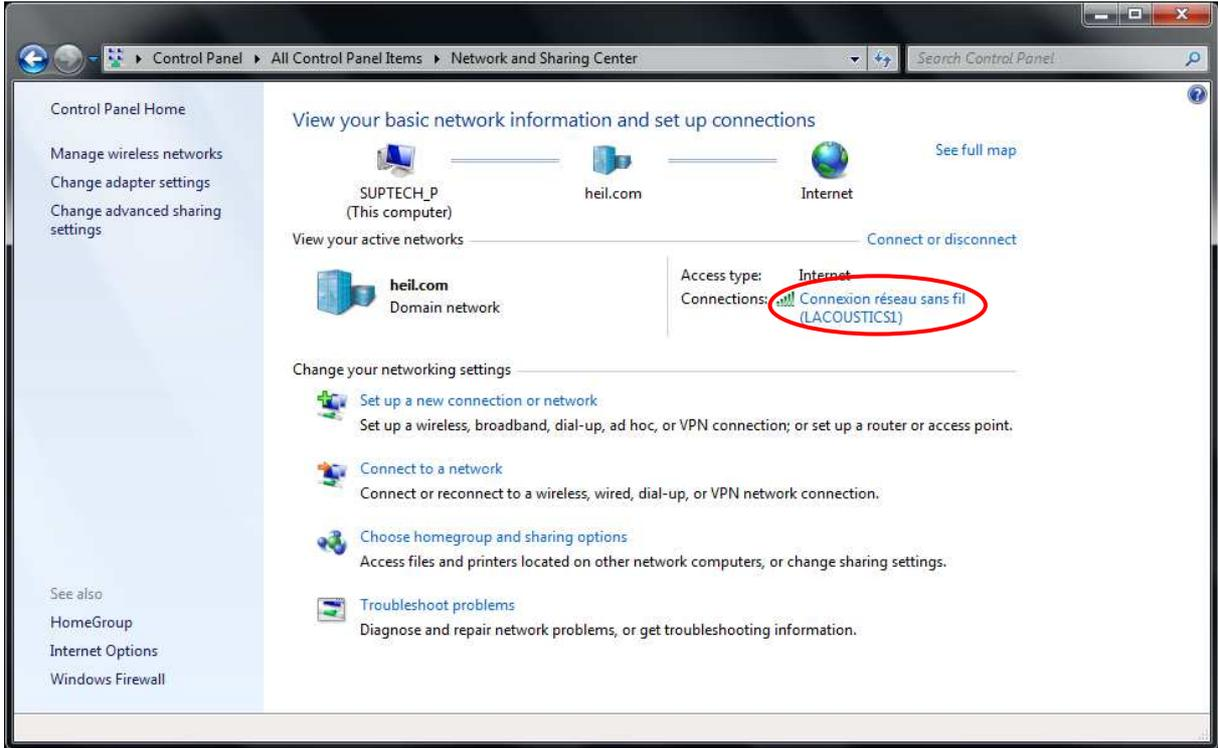

Figure 11: Selecting the Connections item
4. In the **Network and Sharing Center** menu, select the item facing the **Connections** menu (see Figure 11).